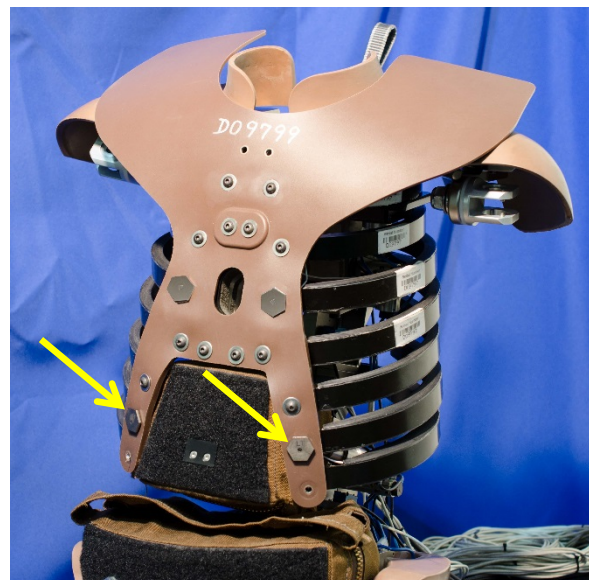

Figure 6-57. Install Rib #6 at sternum
6.2.2.48 To attach Rib #6, no clip nut is utilized. Instead, loosely secure a Lower Thorax IR-TRACC Connecting Bolt (472-3520) through an M5 x 15 x 1.2 flat washer and into the end of each lower IR-TRACC assembly (Figure 6-57). The middle grommet of the Upper Abdomen Bag should be between the bib and the rib. Ensure that the wire that attaches the two ends of the IR-TRACC is aligned in the same plane at each end. The pins in the universal joints where the thorax IR-TRACCs attach to the bib should be configured vertically and horizontally to prevent binding (See photos in Section 6.2.2.45).